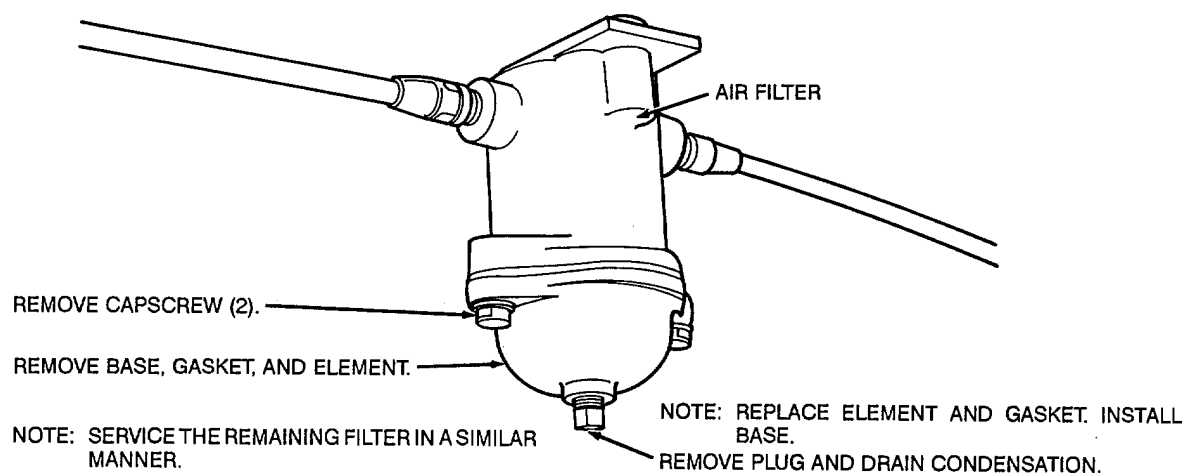

Figure 48. Air system filter service.
- b. Service the air filters (fig. 48).